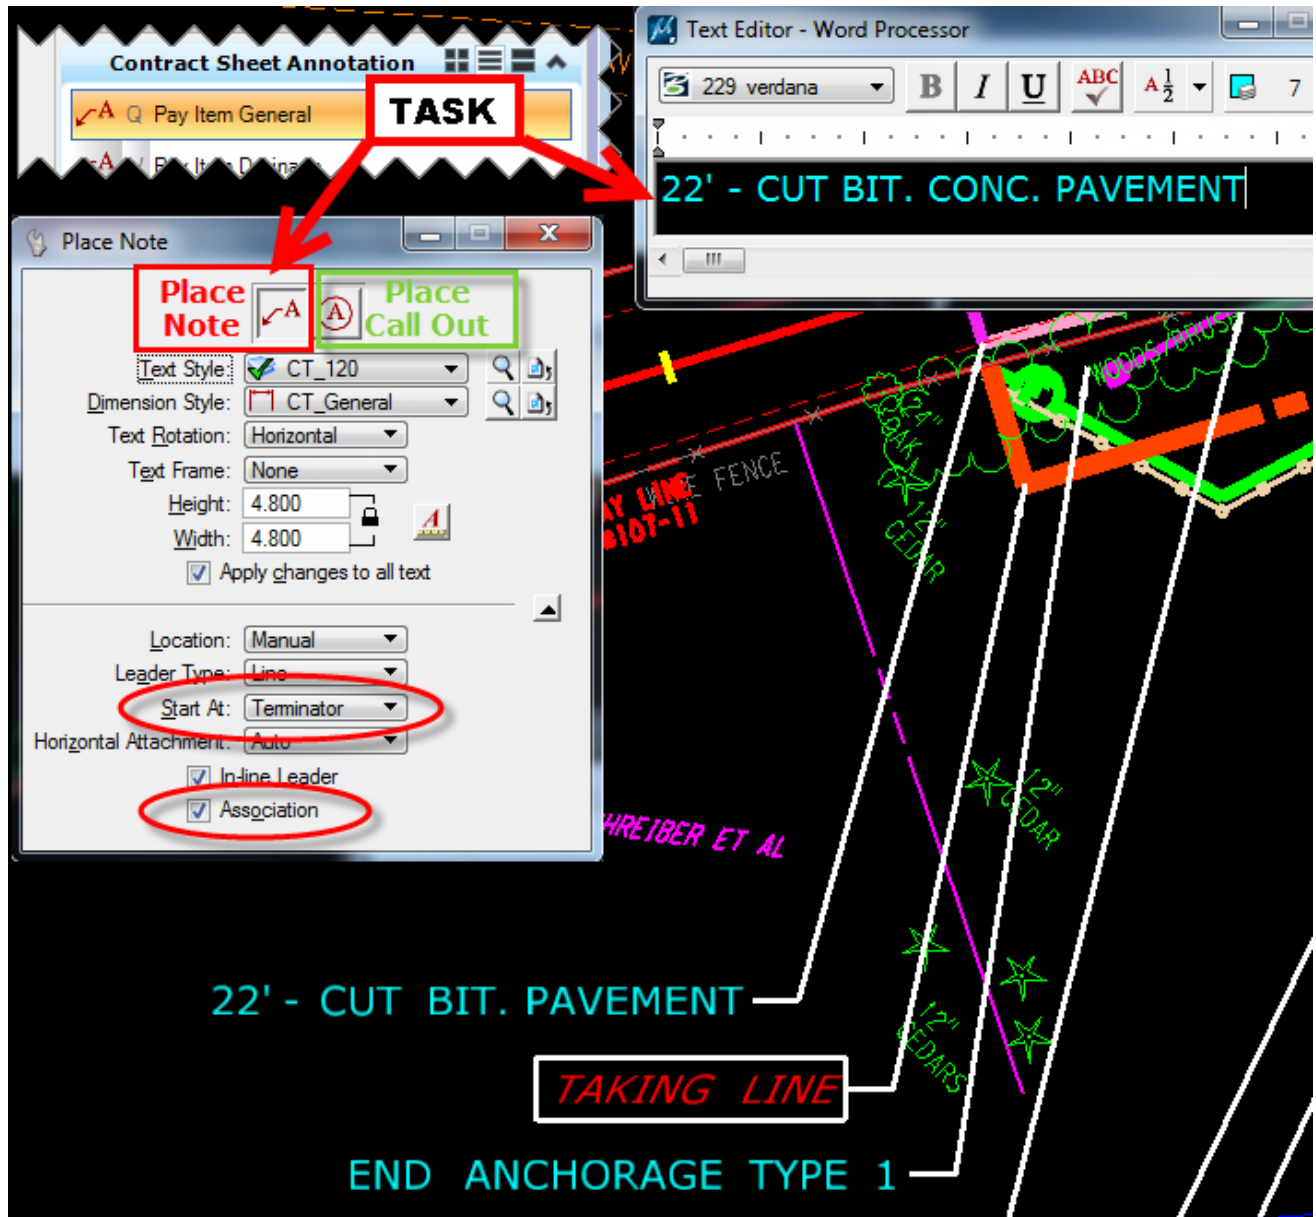

Figure 68 - Place Call Out
2. Make sure the **'Place Note'** is active (not 'Place Call Out') and that **'Start At'**: is set to **Terminator** (Figure 68).